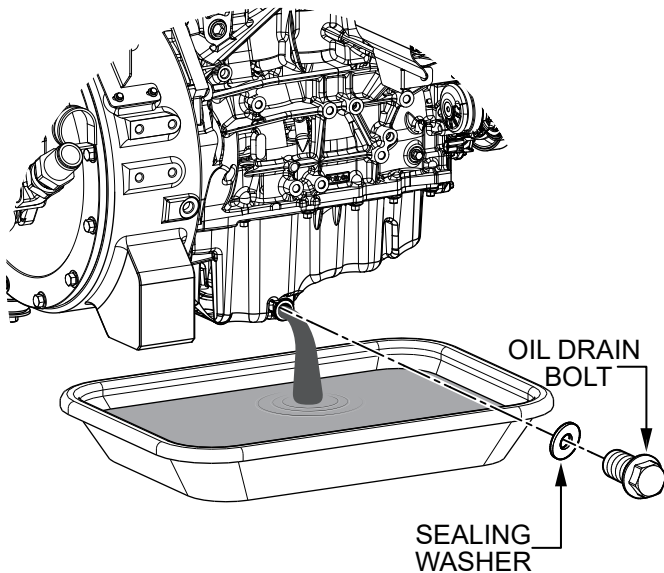

Figure 59. Engine Oil Replacement
- Remove the oil drain bolt and sealing washer (Figure 59). Allow the oil to drain into a suitable container.